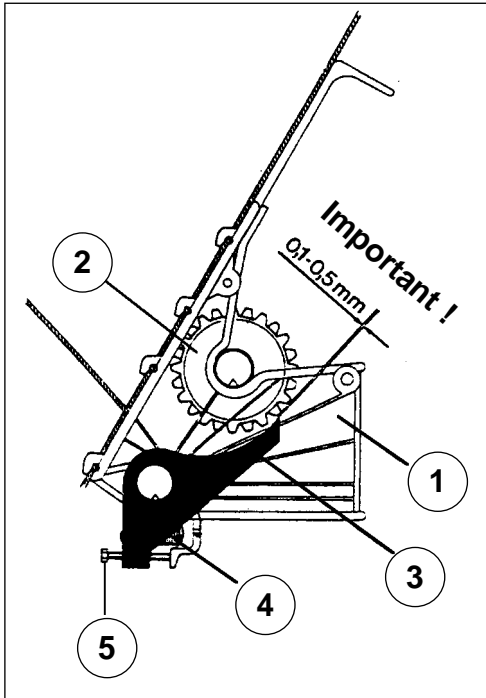

Fig 20
9 Bottom Flaps (Fig 20)
By turning the metering wheel shaft by hand check the flaps are all set to a gap of 0.1 to 0.5mm (refer Fig 20).
To adjust individual flaps use the spring tensioning screw (5) (Fig 20).